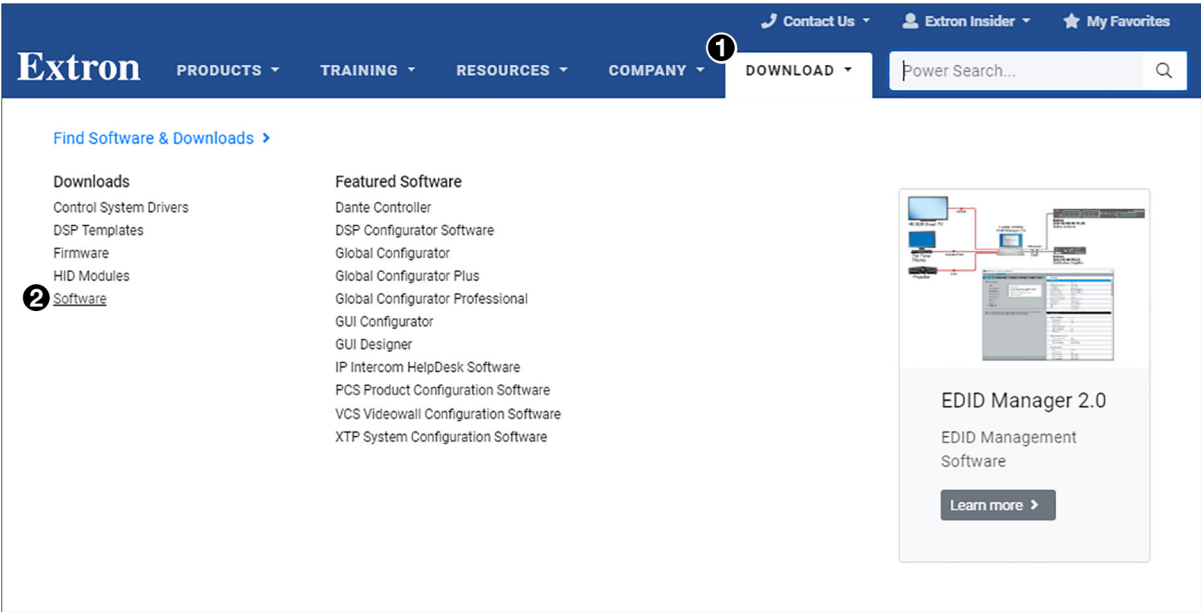

Figure 35. Download Center Page on the Extron Website
1. On the Extron website, select the **Download** tab (see figure 35, **1**, on the previous page).